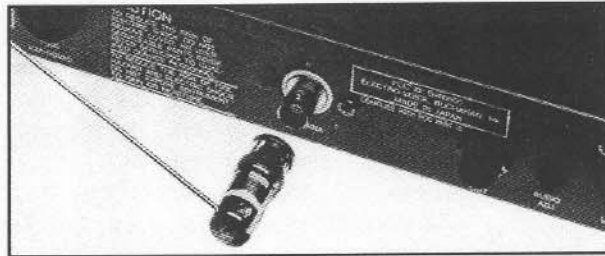

Figure 1 - Connect Antennas on Rear Panel
- 1) **Attach the whip antennas to the rear-panel antenna connectors, twisting clockwise one-quarter turn to lock (disconnect by lightly pushing in and twisting counterclockwise one-quarter turn) (see Figure 1). Position the antennas in an upright "V" configuration (like TV rabbit ears). If the receiver is mounted in a rack, the whip antennas can be made to go straight back by loosening the Allen screw in the barrel of the BNC connector, pulling the antenna out, replacing it in the top of the BNC connector, and retightening the Allen screw. **Note:** dipole antennas provide better range and reliability in difficult installations. See section on antennas later in this manual.**